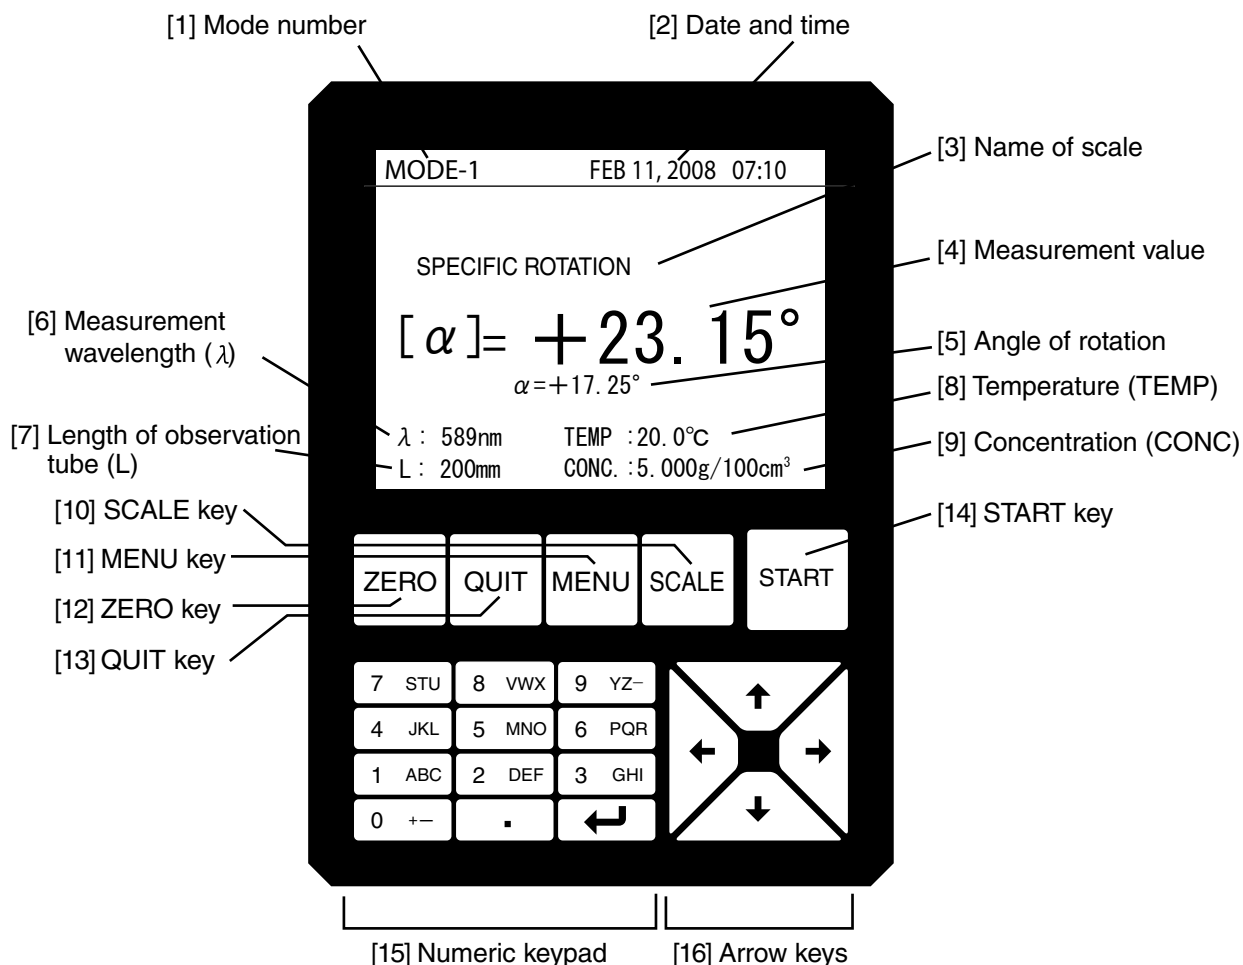

Fig.3-6
(3)-3 Display of a Measurement Value for the Specific Rotation (Fig.3-6)